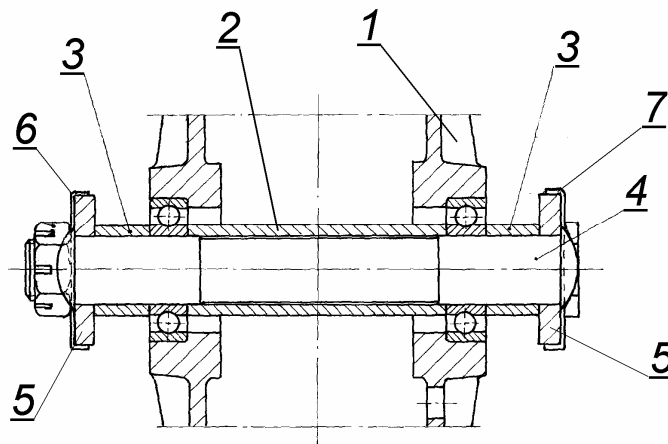

Figure 10-2 Cross-section of the nose wheel hub
10.1.1 Removal and installation the nose wheel (see Figure 10-2)